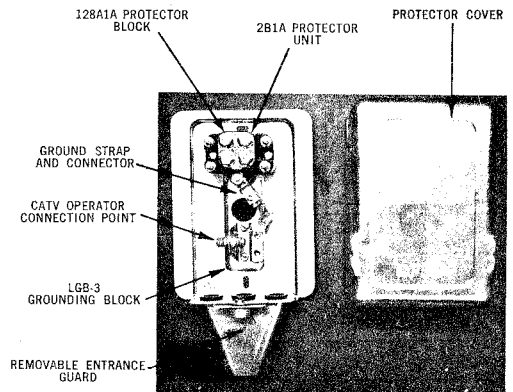

Fig. 5 - Protector QPL3A
2.06 The QPL3A Protector is an outside wall mounted protector (Fig. 5) consisting of a 128A1A-2 Two Station Protector and a coaxial